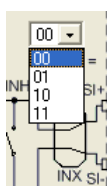

Figure 3-23
- (2) Click the mouse, a menu as Figure 3-23 will appear and users can select the switch network.